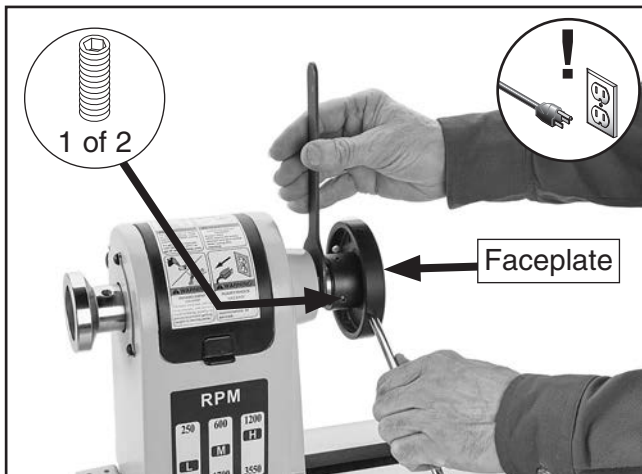

Figure 19. Example of removing faceplate.
2. Loosen (2) set screws on faceplate (see **Figure 19**).
3. Insert included wrench over flats on spindle. While holding spindle in place, turn faceplate counterclockwise with knockout tool until it is removed (see **Figure 19**). If the spur center is installed, it will be removed during this process.
3. Tighten/secure (2) set screws on faceplate (see **Figure 19**).